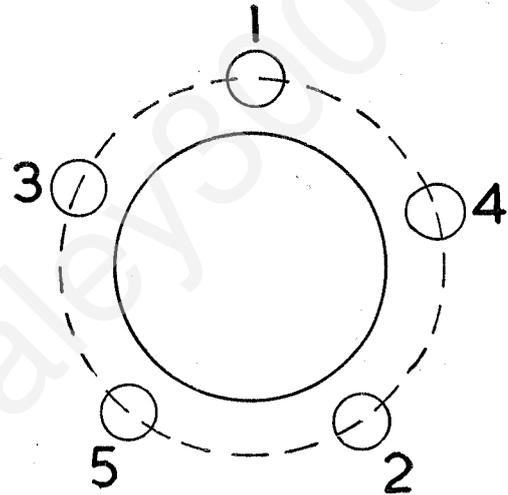

Fig. O.8. Order of tightening the wheel nuts (disc wheels).
- (1) Install the wheel and tyre assembly on the hub.
- (2) Screw on the wheel nuts, which have right-hand threads, *i.e.* turn in a clockwise direction, and tighten them in the sequence shown in Fig. O.8.
- (3) Release the jack and scotch; check the wheel nuts again.
- (4) Place the rim of the hub cover over two of the buttons on the wheel centre and give the outer face a sharp blow of the fist over the third button.